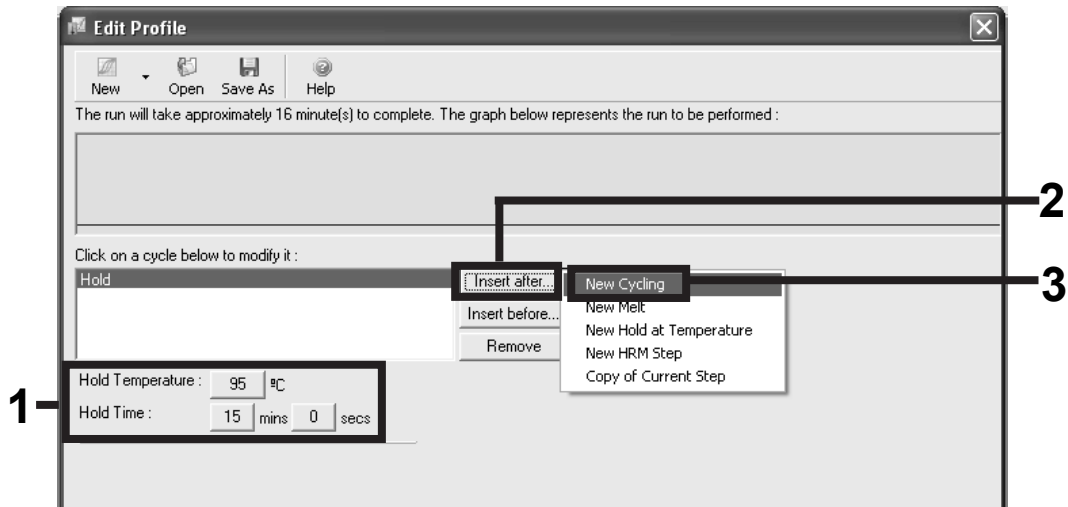

Figure 5. Initial incubation step at 95°C.
Amplification of the DNA	Figures 5–7
- Change the “Hold Temperature” to 95°C and the “Hold Time” to 15 mins. Click the “Insert After” button and then select New Cycling (Figure 5).